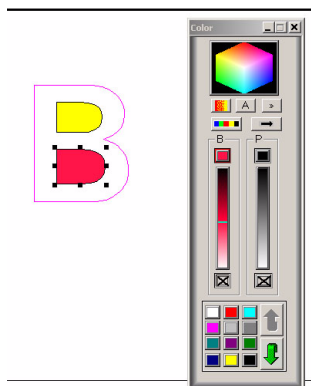

Figure 147
- 2 Click the **Change Color** icon to open the **Color** box. See figure 147.